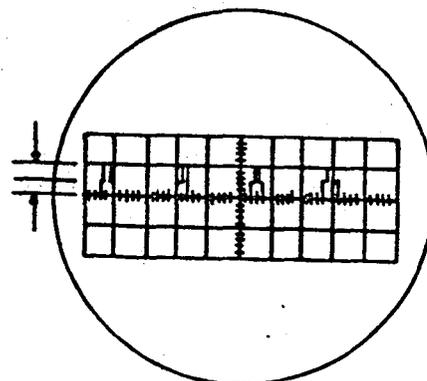

Fig. 6
- 4.24 Verify that a series of horizontal sync pulses with the proper amplitudes as illustrated in Figure 6 appear on the scope.